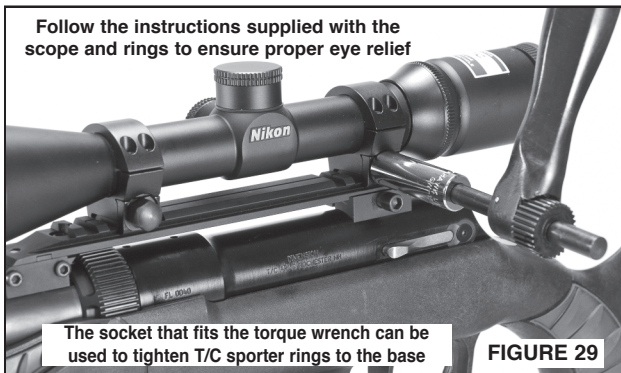

FIGURE 29
A LOC™ bridge-type scope mount base is offered as an accessory (FIGURE 29). The advantage of the bridge-type system is that the “sighted-in” scope stays with the barrel when the barrel is changed out for another barrel. The one rear cross-bolt ties the base rigidly to the receiver. This one bolt needs to be removed to allow the barrel to be removed from the receiver. See section in this manual for details on the bridge-type scope mount base system. T/C suggests using low rings with the LOC™ bridge-type mount to provide proper eye relief.
- Turn the screw clockwise (as viewed from the top of the rifle) to increase the trigger pull force required. A trigger adjustment tool is provided with the T/C Dimension® rifle (FIGURE 29).